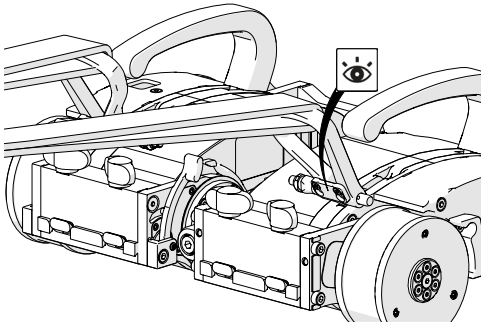

Fig. 83 - Proper shackle setup
1. The shackle plate (*Fig. 83*), in conjunction with the tether attachment point, provides the necessary clearance for scanning equipment.